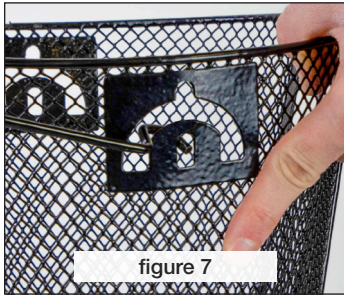

figure 7
1. Attach the basket handle to the wire basket by holding the handle outside the basket and sliding it into the top of the semi-circle cutout on the basket. Then, feed the hook of the handle through the middle basket hole to secure in place (fig 7 + 8).